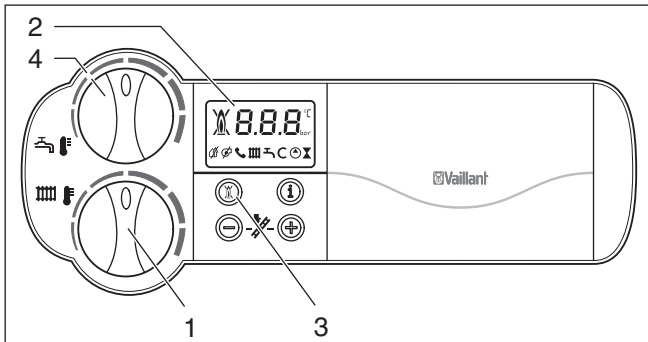

Fig. 5.4 Switching on the appliance
Turn on the appliance at control (1), see fig 5.4. When you turn on the appliance, the current operating status appears in the display (2), see fig 5.4.
- Is the control knob (1, fig 5.4) in the operating position?
The display also shows the flame symbol with a cross through it (2), see fig 5.4.
- To reset the fault, press the reset button (3), see fig 5.4. and hold it down for one second.